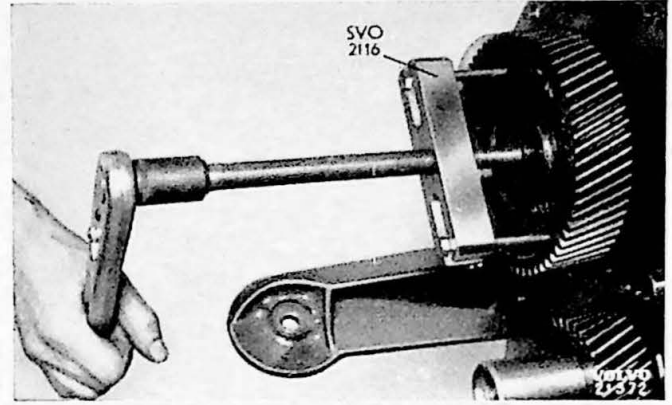

Fig. 1-73. Removing camshaft gear.
4. Take off the nut and then remove the camshaft gear by using puller SVO 2116 (Fig. 1-73).